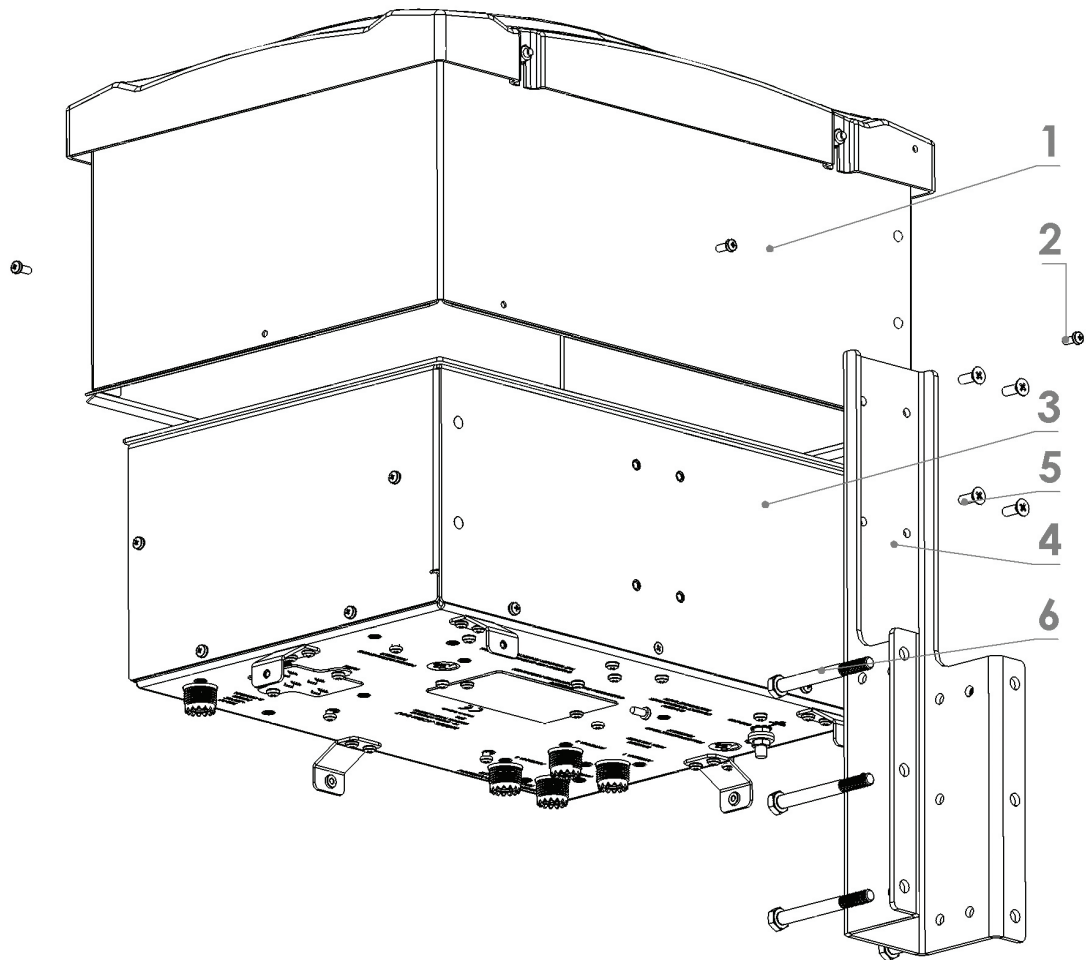

Fig. 2-4. Wall installation bracket
2.4.1 If the *wall* mounting option is chosen – Fig.2-4,
Finally, slip the Weather Protection Cover **ACOM 04-WP** over the tuner – figures 2-4 to 2-7, (1) - directing it **with the protruding part (marked with ACOM) up**. Place it over the provided four carrying pins protruding from the tuner chassis. Carefully align the protection hood until the pins fit into the respective holes; the cover will go down a bit and will rest on the five carrying plates in the tuner base. Check whether all walls of the protection hood are equidistant from the tuner chassis and whether their bottom edges are parallel.